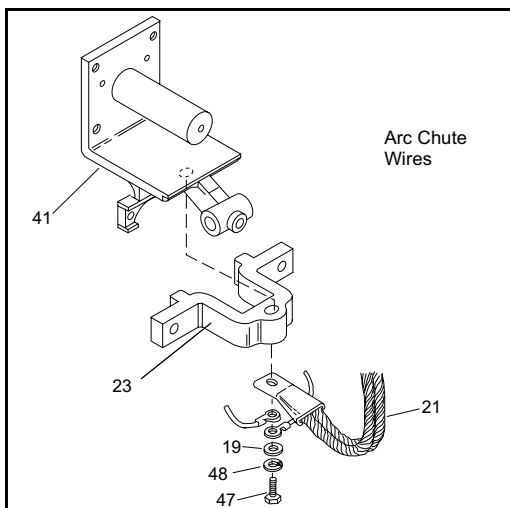

Figure 6: Assembling the Arc Chute Wire and Shunt Connector
3. Remove the hex-head cap screw (47), plain washer (19), and lock washer (48). Then disconnect the arc chute wires and the shunt connector (21).
5. Remove the hex-head nut (17), lock washer (8), hex-head cap screw (45), and then the arc chute.
8. Reconnect the arc chute wires and shunt connector (see Figure 6) using the washer, lock washer, and hex-head cap screw.
2. Disconnect the bottom end of the shunt connector (21) by removing the hex-head cap screw, lock washer, washer, and arc chute wires.
4. Ensure that the auxiliary arm pin (27) is centered and the set screw (18) is tight.
6. Secure the bottom end of the shunt connector and the arc chute wires with the washer, lock washer, and hex-head cap screw (see Figure 6 on page 7).